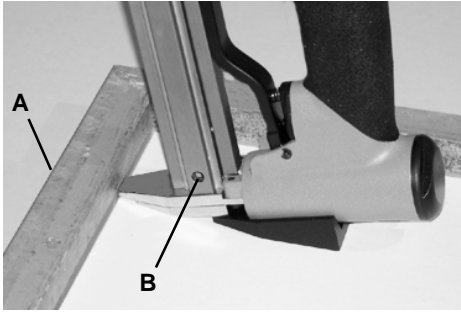

Figure 5
3. Rest the stabilizing shoe flat on the backing and push the nose piece firmly against the frame as shown in Figure 5.